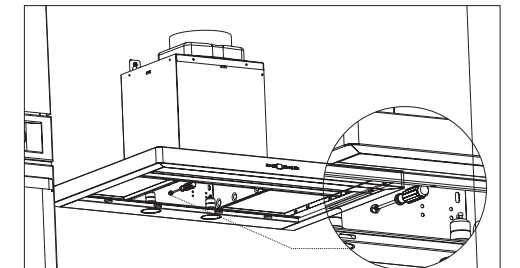

Figure 10
After you have fixed your hood completely, secure the body with a screw from the hole (C) inside the body to prevent it from moving. **Figure 10**